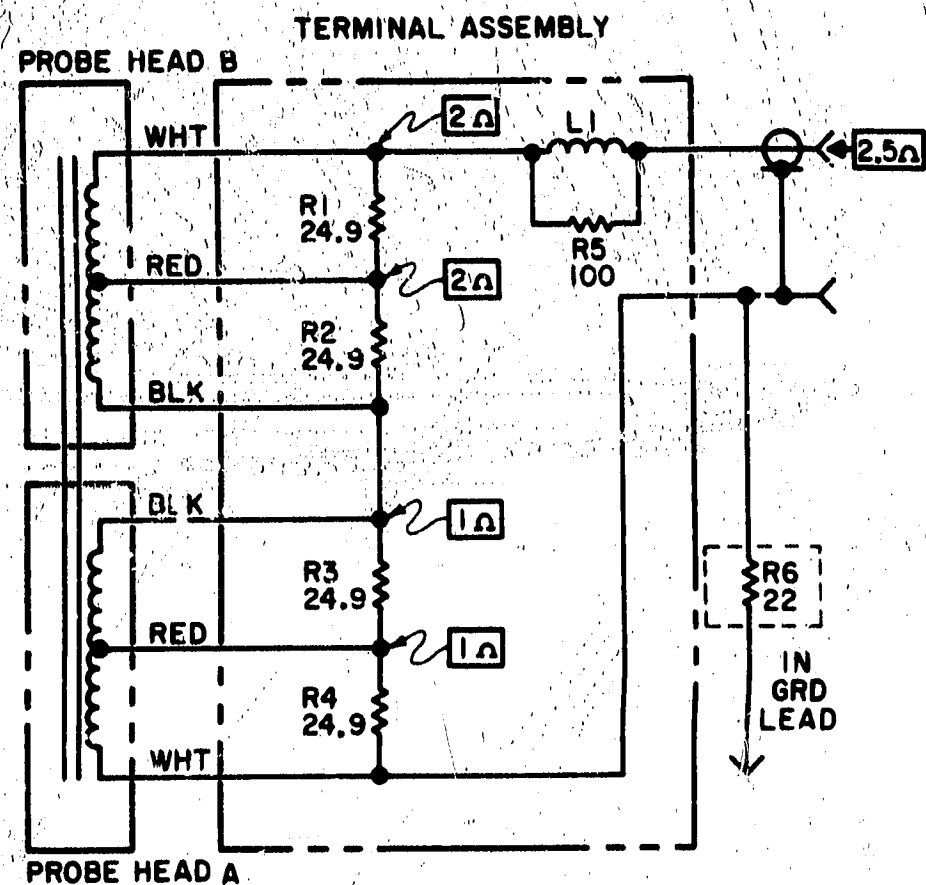

Figure 6. Probe Schematic
36. The following procedure outlines probable causes of trouble with the Model 1110B. Resistances of the windings, as measured from the ground side of the probe, are shown on the schematic, Figure 6.